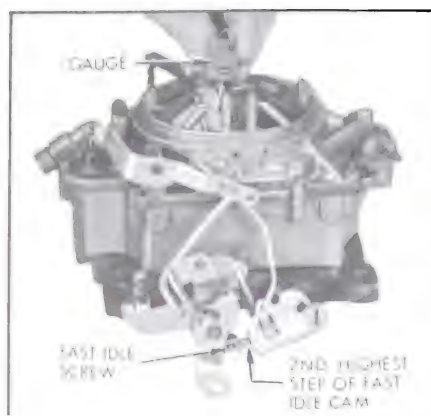

Figure 3-59—Checking Fast Idle Cam Adjustment
1. Fast Idle Cam Adjustment. Close throttle so that fast idle screw contacts second highest step of fast idle cam with side of screw against rise to high step of cam, then check clearance between choke valve and air horn dividing wall using .050" gauge (300 engine) or .030" gauge (401 engine). See Figure 3-59.